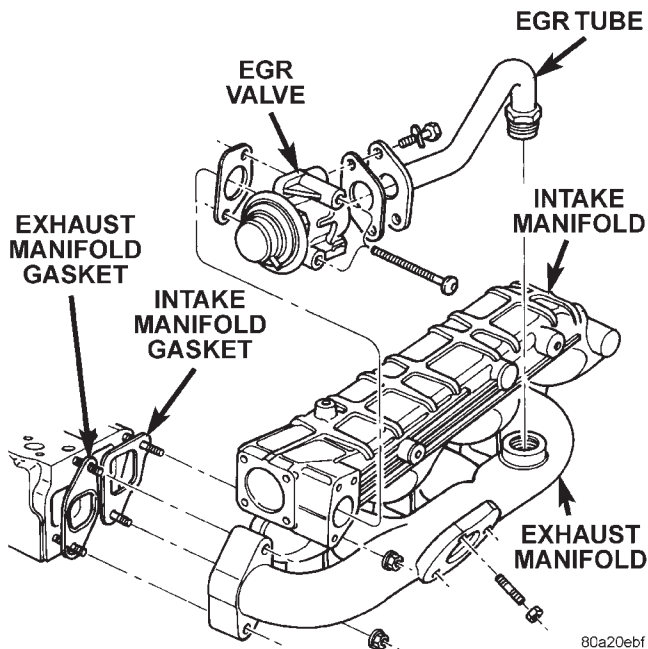

Fig. 2 EGR Valve and Tube Location
- An EGR valve assembly. The valve is located behind the intake manifold (Fig. 2).
- An EGR tube (Fig. 2) connecting a passage in the EGR valve to the rear of the exhaust manifold.
(1) All EGR valves are equipped with a vacuum supply fitting located on the EGR valve vacuum motor (Fig. 2).
(2) Disconnect the rubber hose from the vacuum supply fitting (Fig. 2).
(3) Connect a hand-held vacuum pump to this fitting.
(4) Start the engine.
(5) Slowly apply 10 inches of vacuum to the fitting on the EGR valve motor. Vacuum should hold steady at 10 inches. If not, replace the EGR valve. If vacuum holds steady at 10 inches, proceed to next step.
(6) While applying vacuum, and with the engine running at idle speed, the idle speed should drop, a rough idle may occur, or the engine may even stall. This is indicating that exhaust gas is flowing through the EGR tube between the intake and exhaust manifolds.
(7) If the engine speed did not change, the EGR valve may be defective, the EGR tube may be plugged with carbon, or the passages in the intake and exhaust manifolds may be plugged with carbon.
- (1) Remove the rubber hose from turbocharger to metal tube.
- (2) Disconnect vacuum line at EGR valve vacuum supply fitting (Fig. 2).
- (3) Loosen the tube fitting at exhaust manifold end of EGR tube (Fig. 2).
- (4) Remove the two bolts retaining the EGR tube to the side of EGR valve (Fig. 2).
- (5) Remove the two EGR valve mounting bolts (Fig. 2) and remove EGR valve.
- (6) Discard both of the old EGR mounting gaskets.
The EGR tube connects the EGR valve to the rear of the exhaust manifold (Fig. 2).
- (1) Remove rubber hose from turbocharger to metal tube.
- (2) Remove two EGR tube mounting bolts at EGR valve end of tube (Fig. 2).
- (3) Loosen fitting at exhaust manifold end of tube (Fig. 2).
- (4) Remove EGR tube and discard old gasket.
- (5) Clean gasket mating surfaces and EGR tube flange gasket surfaces.
- (6) Check for signs of leakage or cracked surfaces at both ends of tube, exhaust manifold and EGR valve.